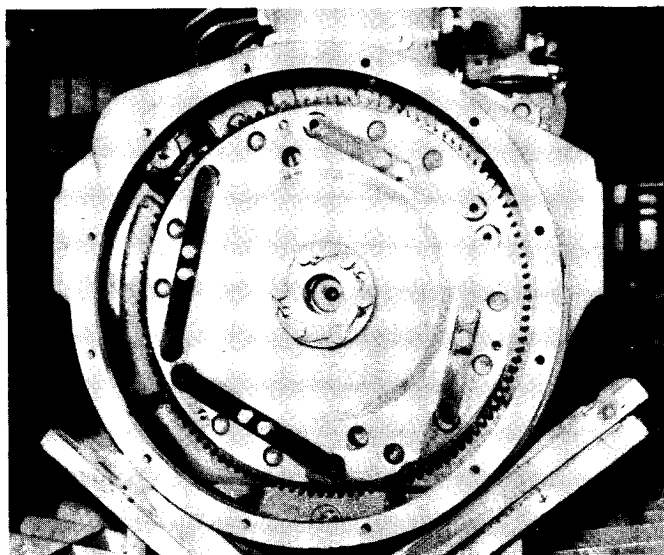

Fig. 11
To remove the converter element from the flywheel, first remove the left hand motor mount. This uncovers a hole so that a wrench or screwdriver can be inserted to hold or turn the flywheel. Using a socket through the 1-1/2" pipe plug hole in the front side of the flywheel housing, remove the eight (8) self-locking nuts from the special capscrews holding the converter to the converter straps. Order and install the following parts if just four straps are used to connect the converter to the engine flywheel. Install new straps as shown in Figure 11.